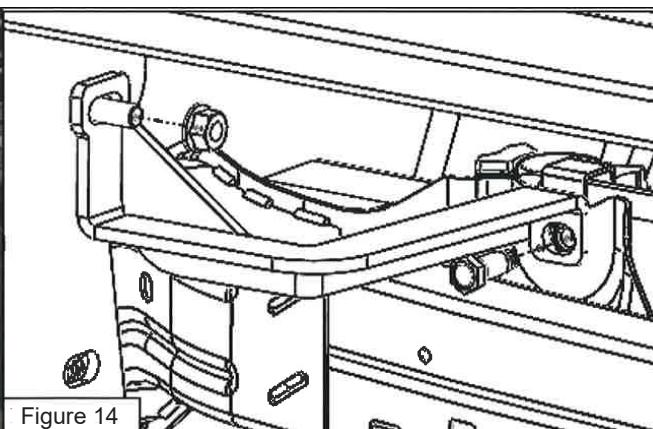

Figure 14
14. Remove the stock bolt shown in Figure 14 and save it to be used in the next step.
15. Place the upper brackets into the holes and install them using the previously removed bolts. Leave them loose for now. See Figure 14.
16. Install the upper brackets (Items 8 and 9) to the push bumper using the M10 hardware (Items, 10, 11, and 12). See Figure 14.